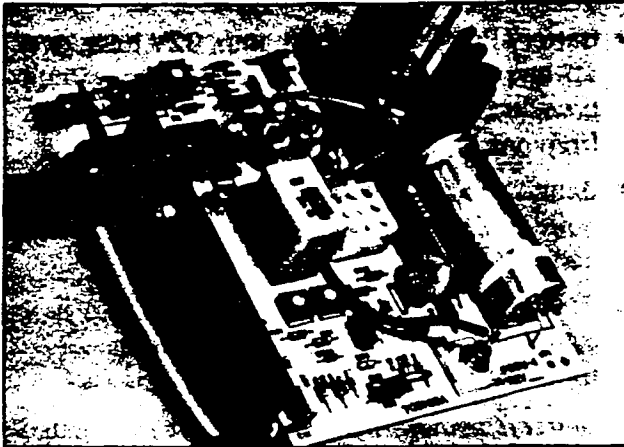

FIGURE 8—PBPU PCB
02.01 The power battery backup unit (PBBU) in Figure 8 is an optional PCB which may be installed in the MPSA-200 to interface with two auxiliary 12 VDC batteries. In the event of an electrical power failure, the PBBU provides an automatic battery power source, permitting a typical *Strata S* system to continue normal operations for some time (in direct ratio with the type and size of the batteries chosen).
- The "Battery Override" switch (Figures 8 and 9) is placed in the ON position.